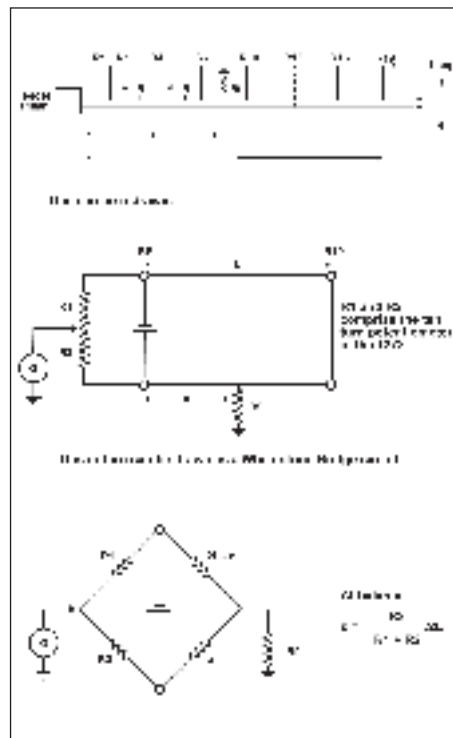

Figure5 MURRAY LoopTest
In this instance a conventional MURRAY loop test can be carried out using the T272. The test can be made from the feeder pillar with the faulty phase and neutral solidly connected at the furthest lamp on that phases (See figure 5). When the T272 is 'balanced', the distance to the fault will be indicated as a percentage of the loop length, (2L). Normally where a cable consists of lengths of different cross-sectional area, allowances have to be made for the difference in resistance per unit length of the cables.
For example, in figure 5 the fault might be indicated at 46%L. Examination of the cable records or cable route would indicate that this was somewhere between lamps R7 and R10. By leaving the bridge set up as it is and applying a solid earth to the phase only at lamp R7and repeating the bridge test would yield an answer of 41%L.
A variation of the MURRAY loop - the HILBORN loop - can be used in this situation. If we assume standard phase rotation in figure 5, then lamp 18 will be on the Blue Phase (B18) and lamp 20 on the Yellow Phase (Y20). A single insulated wire, (cross-section unimportant), is run from B18 to R19 and a similar wire from Y20 to R19. At the feeder pillar the red bridge terminal is connected to the faulty phase, (in this case also red), the black bridge terminal is connected to one of the healthy phases and the battery is connected between the other healthy phase and the faulty phase. This time, when the bridge is balanced, the reading will give the fault position as a percentage of the cable length (L) between the feeder pillar and R19. Again, by applying a solid earth to the faulty phase at a lamp, the 'TEE' joint feeding this lamp can be identified relative to the fault.